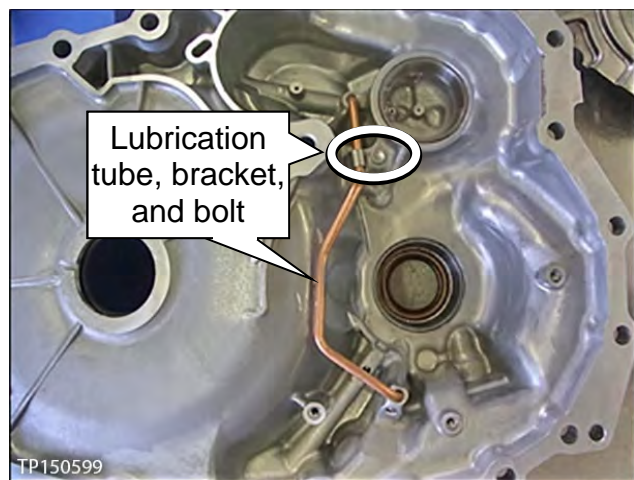

Figure 155
b. Remove the bolt and then remove the lubrication tube and its bracket (Figure 155).